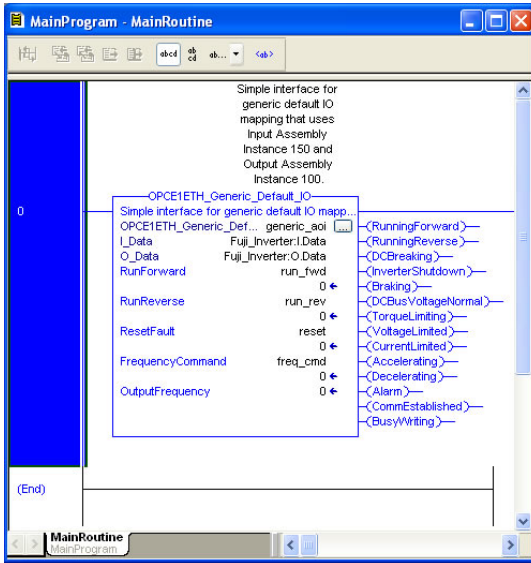

Figure 93: Configure Generic Default AOI
- 10) Edit the add-on instruction according to Figure 93.